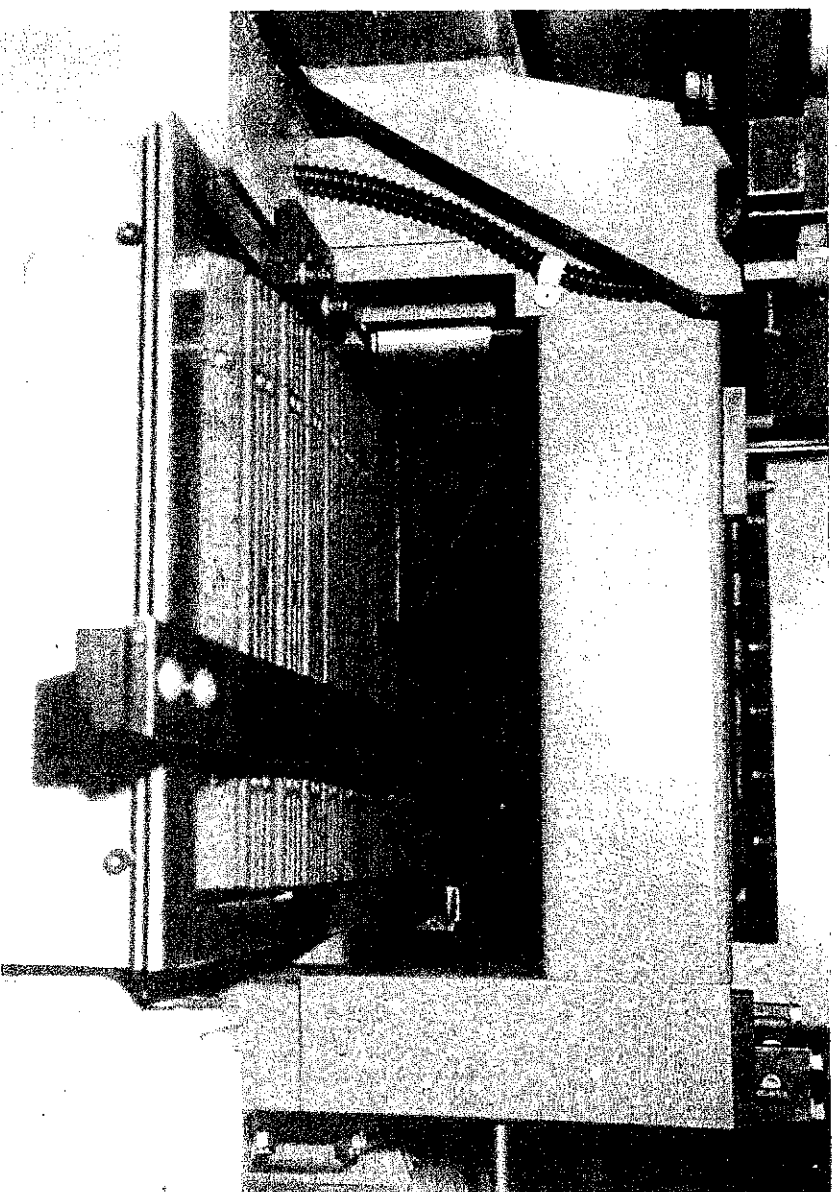

FIG. 39
- g) Place setting device over knife FIG.39. Press setting device firmly down onto thickneser lag bed and move device until feet locate on cutterblock. Knife is now correctly set at 1mm cutter projection.